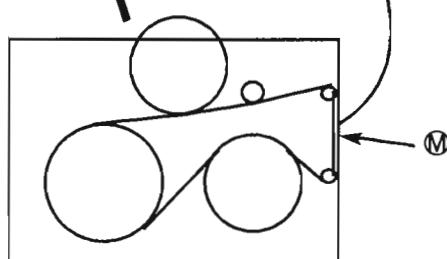

Fig. 16 Mechanism B
5. Install the mechanism B installed the belt as shown in fig. 16 to the bracket which is assembled with the mechanism A.